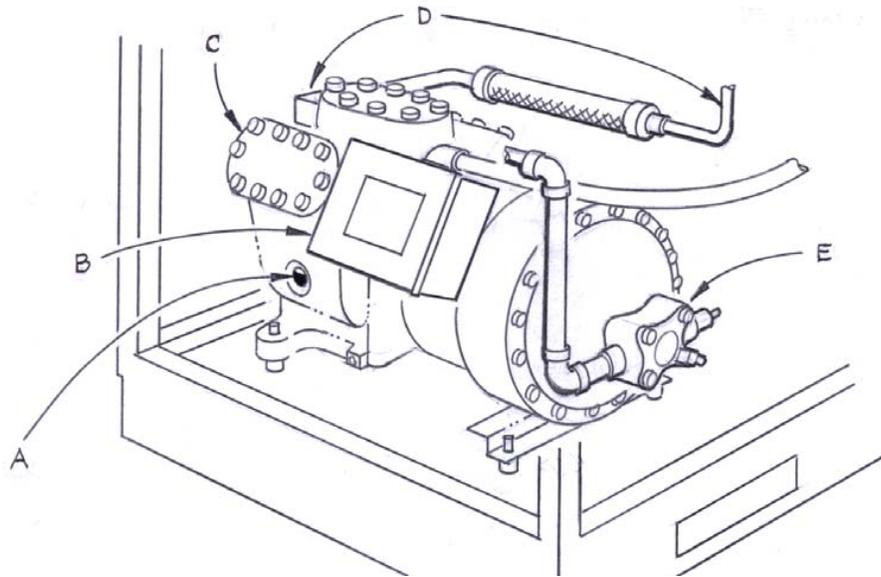

Figure 3-26: Compressor parts location
<p>EXTREME TEMPERATURES EXIST Do not reach inside the compressor compartment when the unit is operating. The compressor's heads and discharge line may be hot; contact with the hot surface may result in minor or moderate injury. Do not touch the compressor's heads or discharge line. See <a href="#">Figure 3-26</a>.</p>
5. Remove the unit's left panel. Locate the oil sightglass on the compressor. (Figure 3-26.) It should be 1/8 to 1/2 full (1/8 full is preferred) while the compressor is running for at least 60 minutes.